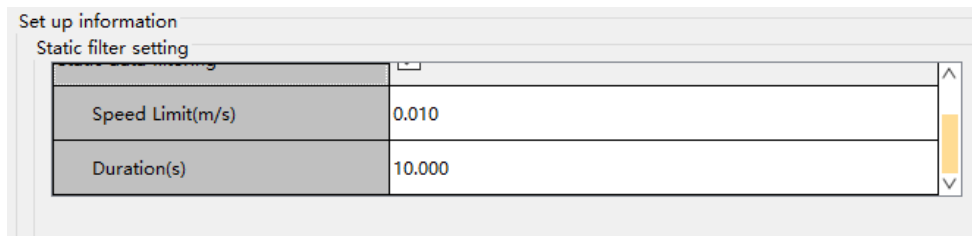

Figure 27
- Check the static data filtering, enter the appropriate speed limit threshold (m/s) and the appropriate duration threshold (s).As shown in figure 27